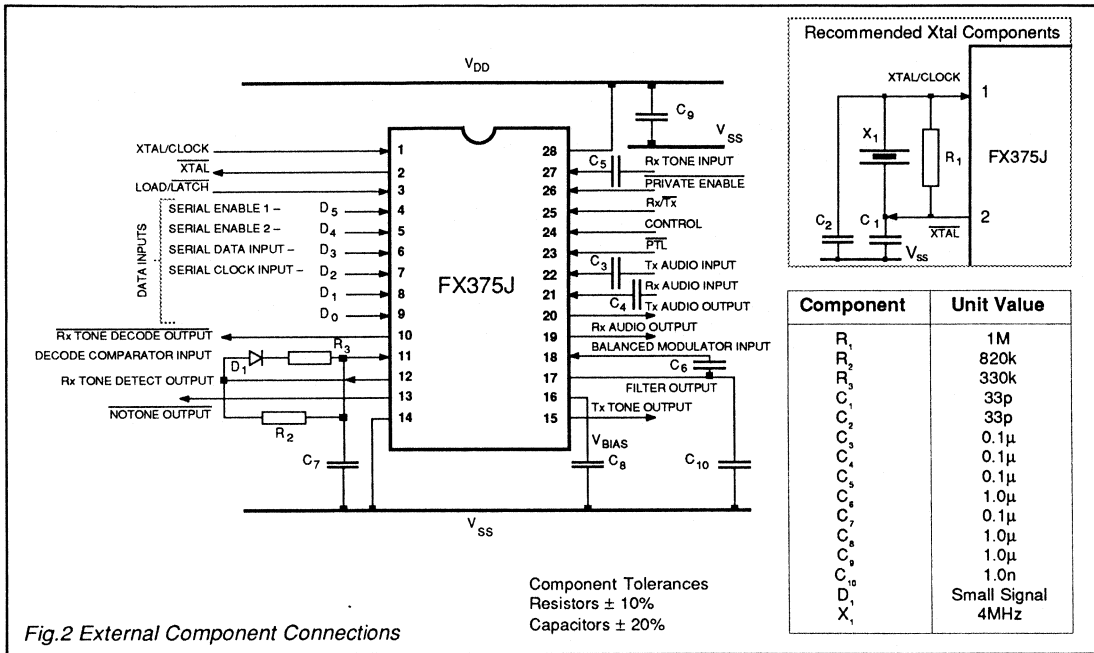

Fig.2 External Component Connections
6. The functions in this table are applicable when the device is connected as recommended in Figure 2.